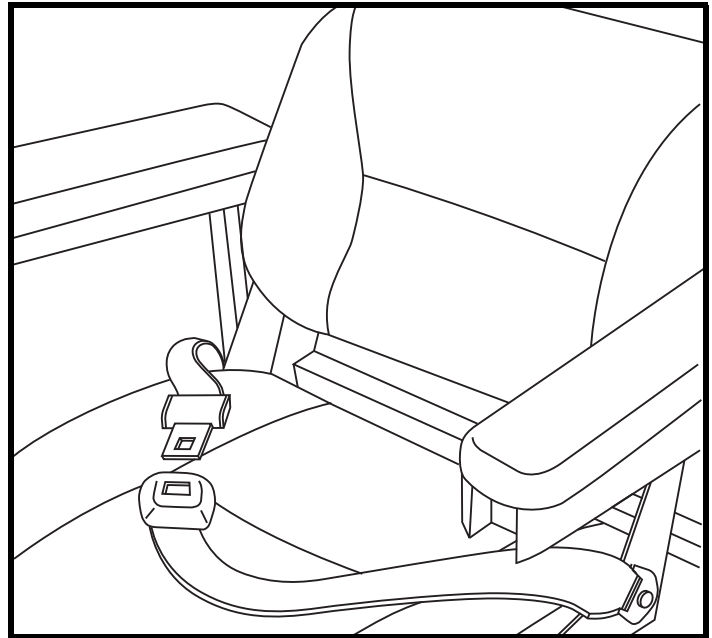

Figure 17. Positioning Belt Adjustment
Your power chair may be equipped with a positioning belt that can be adjusted for operator comfort. See figure 17. The positioning belt is designed to support the operator so that he/she does not slide down or forward in the seat. The positioning belt is not designed for use as a restraining device.
1. Once seated, insert the metal tab on one side of the belt into the plastic housing on the opposite side until you hear a click. See figure 17.